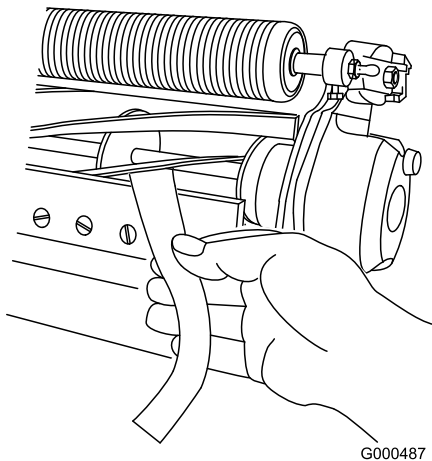

Figure 11
3. At one end of reel, insert a long strip of newspaper between reel and bedknife (Figure 11). While slowly rotating reel forward, turn bedbar adjusting screw clockwise (on same end of reel, one click at a time, until paper is pinched lightly, when inserted from the front, parallel to the bedknife. A slight drag will be noted as the paper is pulled.
5. After the adjustment is accomplished, check to see if the reel can pinch paper when inserted from the front and cut the paper when inserted at a right angle to the bedknife (Figure 11). It should be possible to cut the paper with minimum contact between the bedknife and the reel blades. Should excessive reel